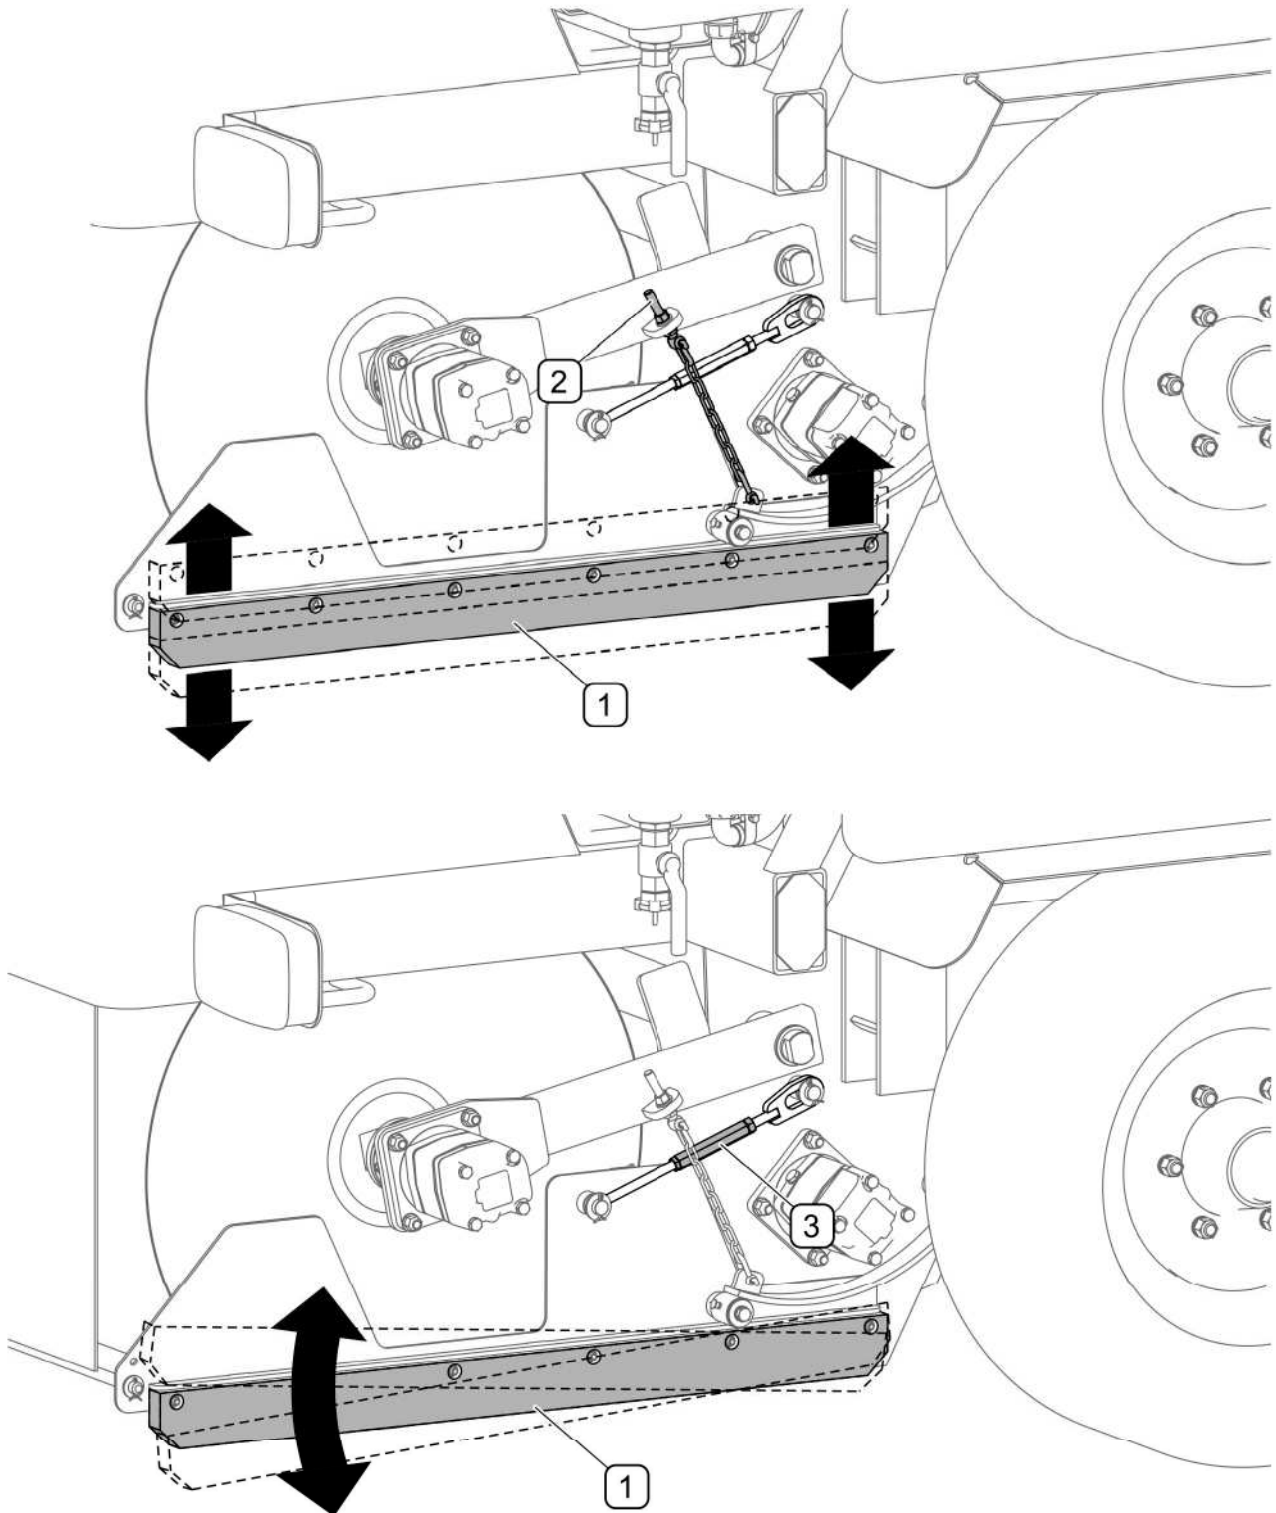

FIG. 5.8 Adjustment of side slides
(1) - slide; (2) - chain tensioner; (3) - double ended bolt
There are slides on both sides of the roller brush (FIG. 5.8). Position of slides with regard to the ground as well as their technical condition should be checked periodically. Slide should be positioned in such a manner as to slightly touch surface cleaned. Slide (1) suspension height is set by means of chain tensioner (2). If the range of tensioner (2) is insufficient,
shorten the chain by changing position of shackles. Slide inclination (FIG. 5.8) is set by means of double ended bolt (3). Slide should be set in parallel to the surface cleaned. Positions of the slides on the right and left sides of the brush should be the same.